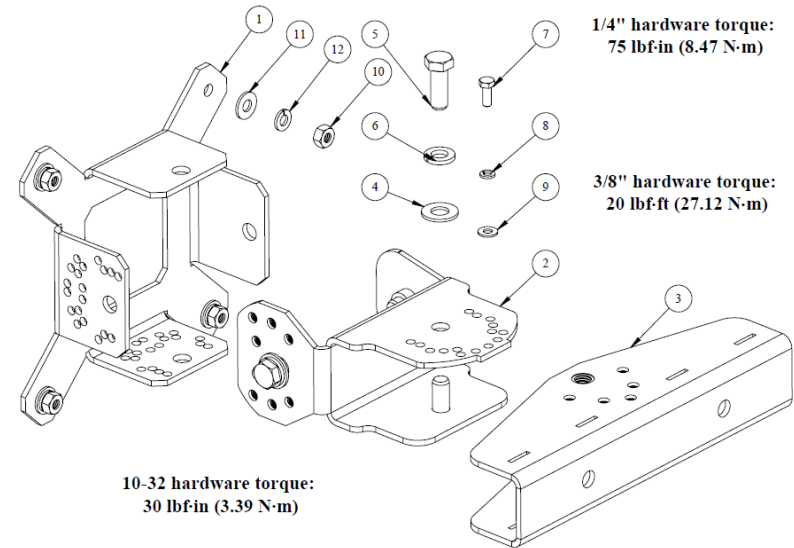

Figure 8: 91900325 bracket details
Kit 91900325 (Figure 8) is sold separately and can be used instead of 919050. Kit 91900325 is identical to 91900324-01, except 45700440-01 is included in this kit; consequently, some extra hardware is provided, i.e., (10), (11), and (12).